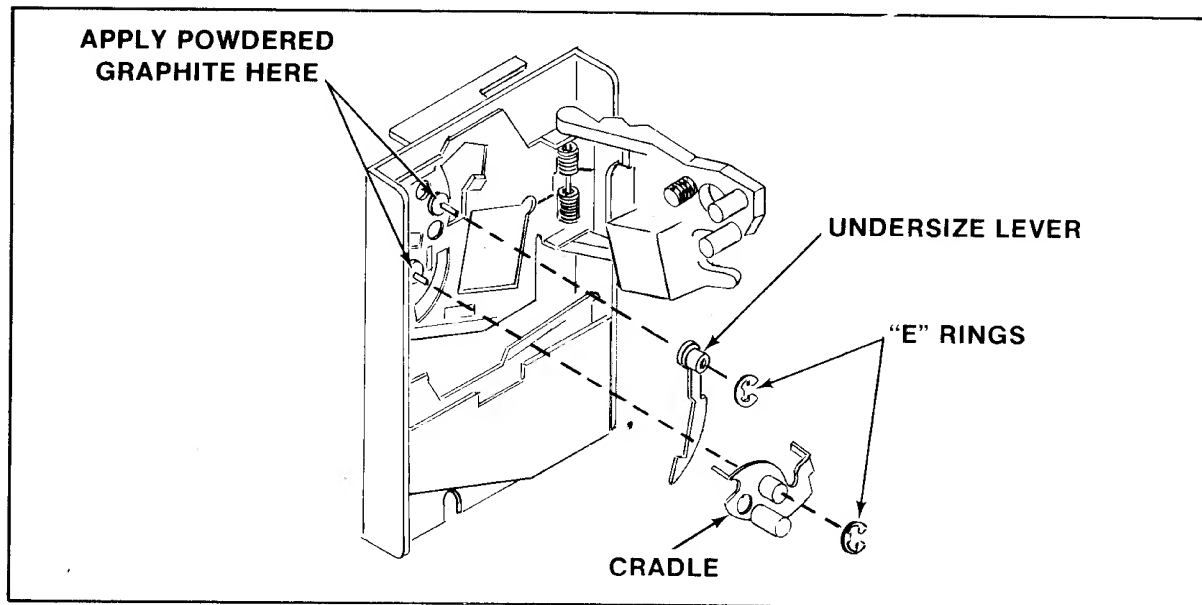

FIGURE 39
- i. Use **ONLY** powdered graphite and put it **ONLY** on the moving parts of the coin Acceptor. These parts are called out in Figure 39.